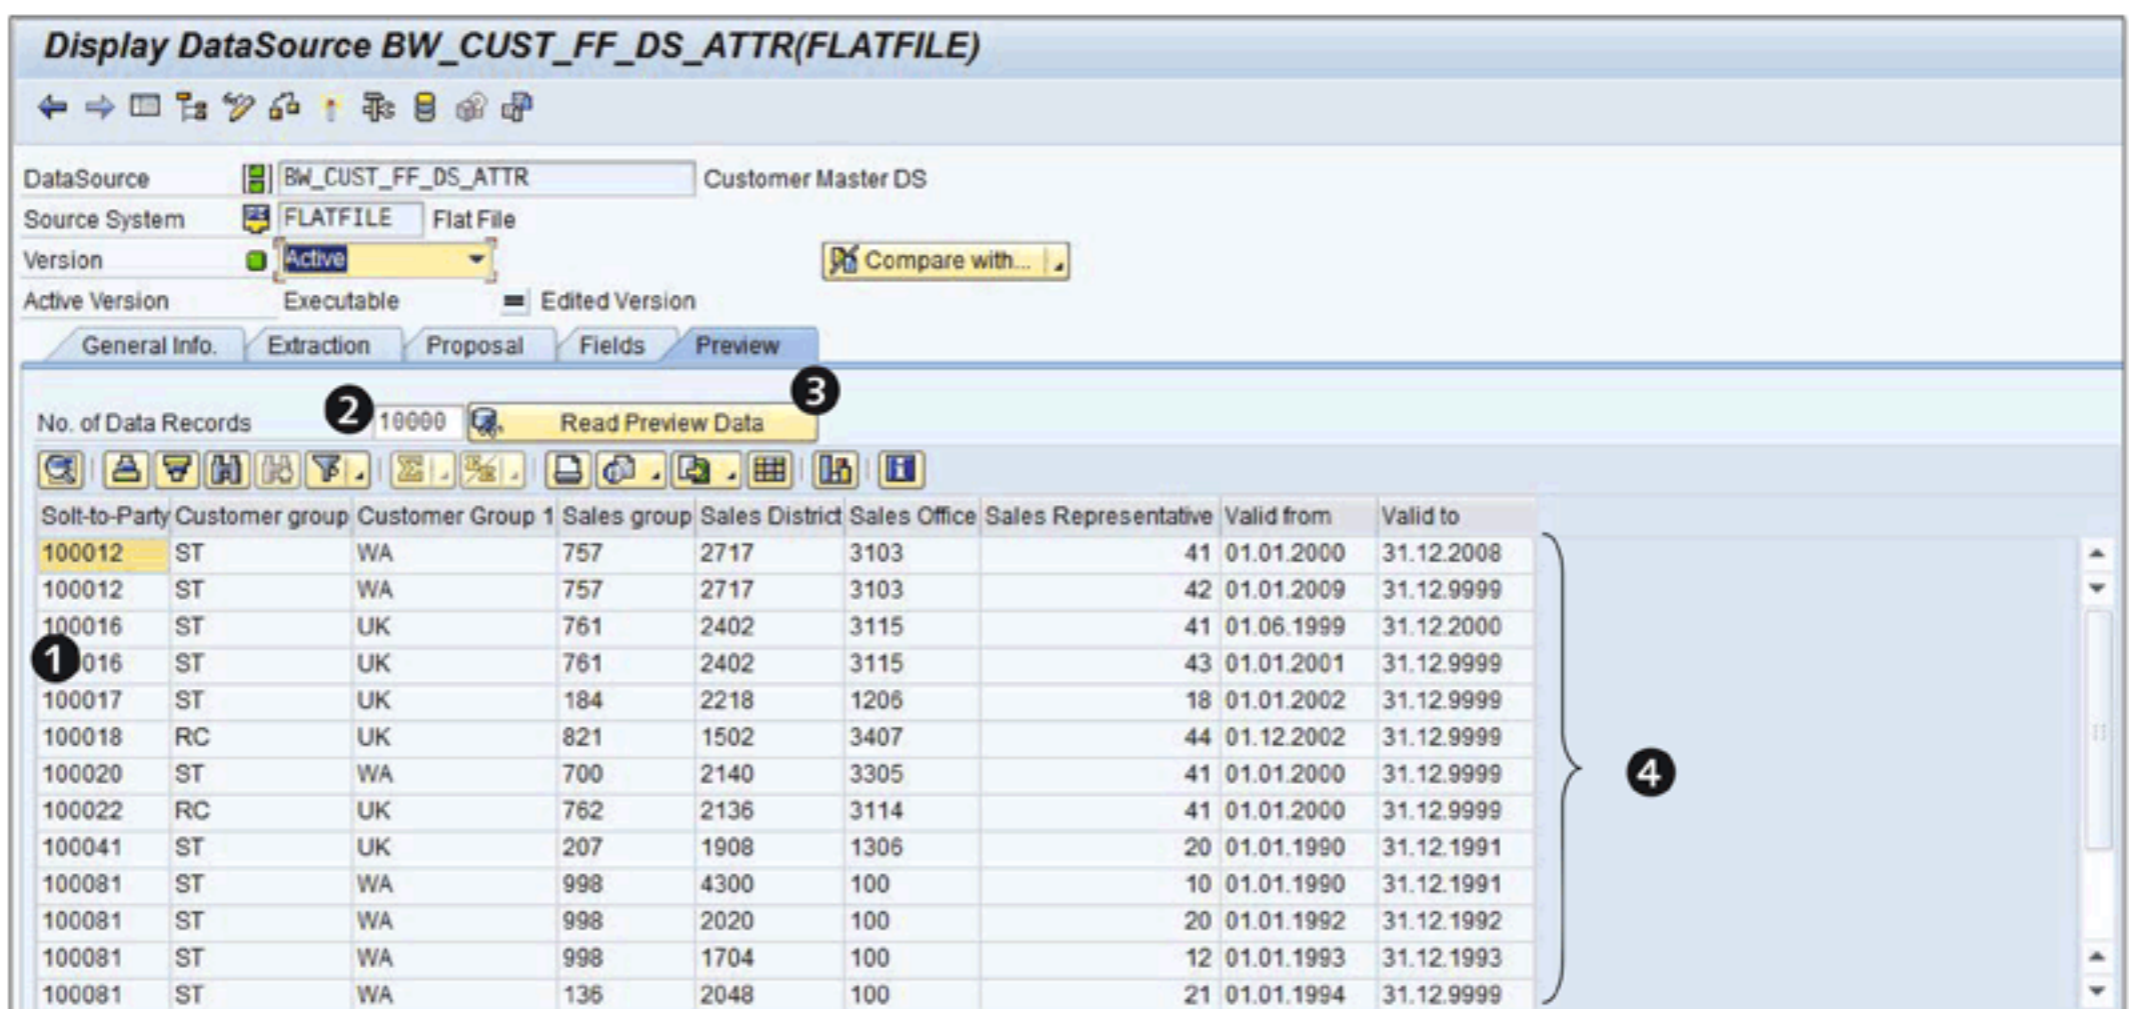

Figure 7.17 DataSource Creation: Preview Tab
In the PREVIEW tab, you can check whether your definition of the DataSource matches the actual data file definition; the tab allows you to see the data in the DataSource format before loading it to the SAP NetWeaver BW system (this can only be done, however, if the DataSource is active). Initially, no data is shown, and you can select the number of records you want to view (1,000 records, for example), and click on READ PREVIEW DATA (❸). The result of this action is shown in ❹ of Figure 7.17. SAP NetWeaver BW reads the actual data and displays the requested number of records, allowing you to make sure your DataSource is correct.